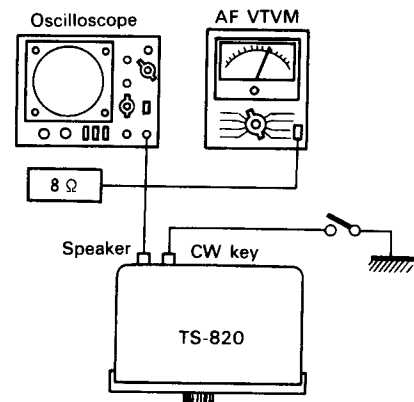

Fig. 39 Adjustment of side tone
- 1) In Fig. 39, adjust VR3 in AF • AVR unit (X49-1080-00) until AF output becomes 50 mW (0.63 V/8 $\Omega$ ) with the key down (refer to Fig. 28).